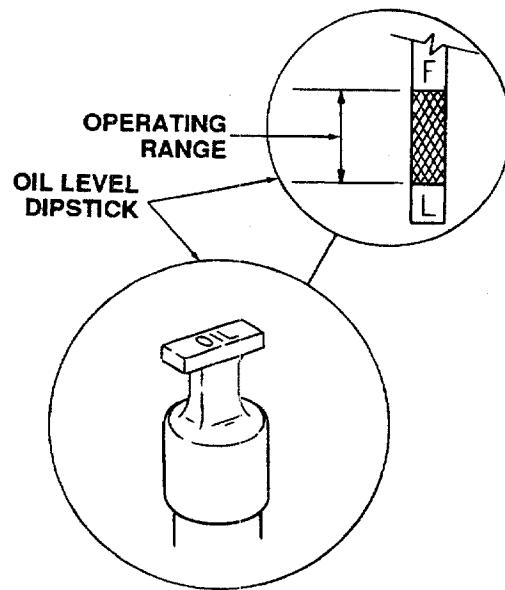

Figure 19
Before each use, the oil level of the engine crankcase should be checked to see that it is filled to correct level. Close monitoring of the oil level during the first 10 hours of operation of the engine is especially important. Before checking the oil level, clean the area around the oil fill tube and oil fill cap/dipstick to prevent debris from entering the crankcase. Always keep the oil level between the "FULL" and the "LOW" marks on the dipstick. (See Figure 19.) When checking the oil level, engine must be cold, the dipstick must be withdrawn and wiped clean, then inserted all the way and withdrawn for a true reading.
3. Remove the oil fill cap/dipstick from oil fill tube and SLOWLY pour oil into the oil fill tube. Fill the crankcase until the oil level reaches the "FULL" mark on the dipstick. (Refer to Figure 19.)
3. Remove the oil fill cap/dipstick from oil fill tube and SLOWLY pour oil into the oil fill tube. The oil capacity is approximately 4 pints. Fill the crankcase until the oil level reaches the "FULL" mark on the dipstick. (Refer to Figure 19.)